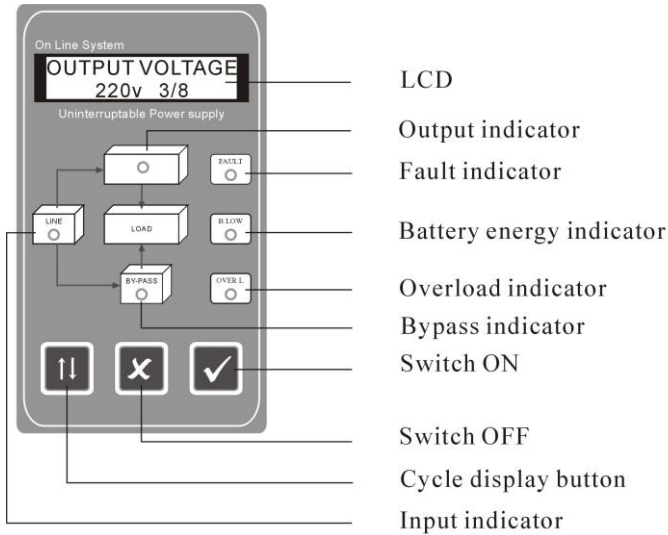

Figure 5 . Symbol instruction of front panel indicator
4.1. Display/Control panel(Figure 5)